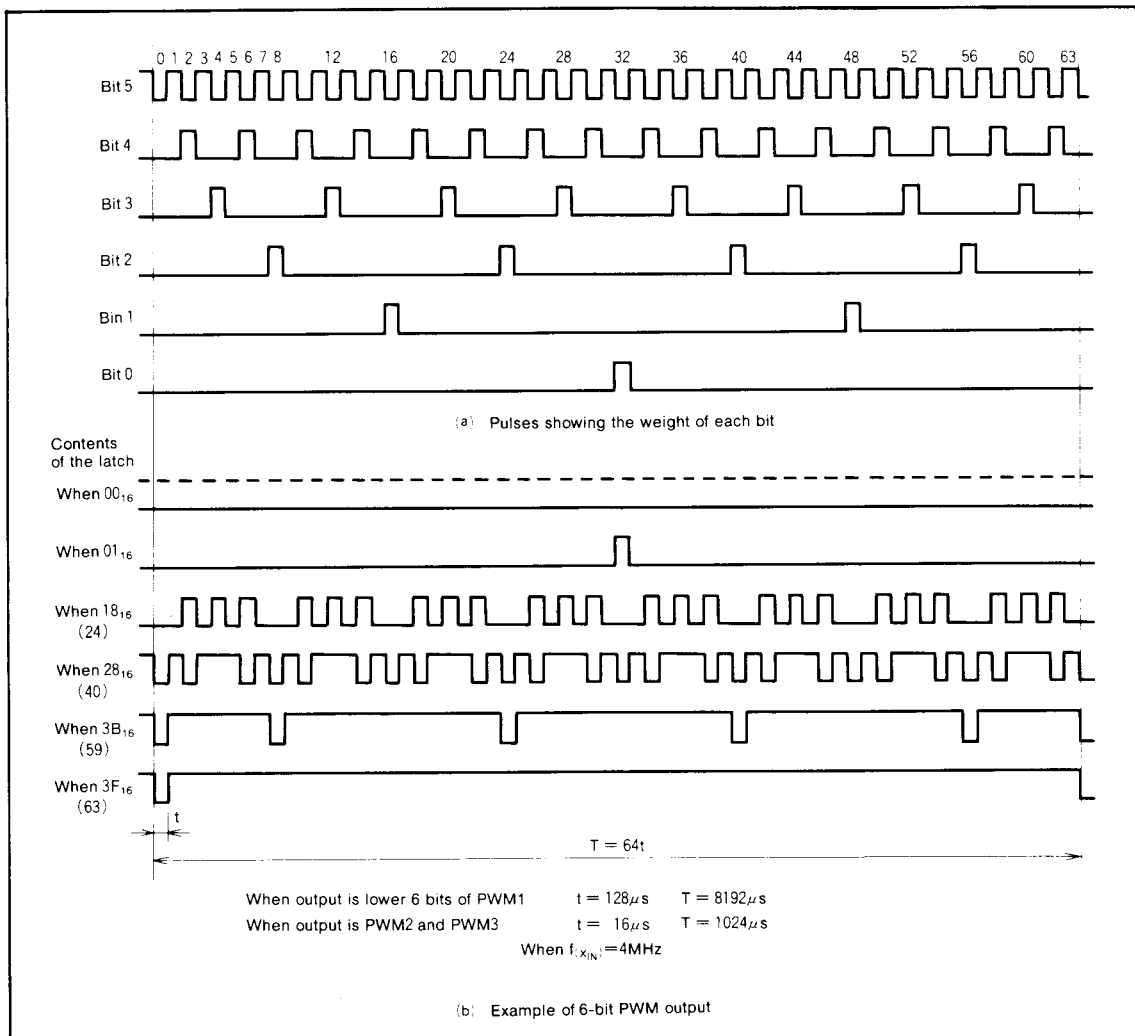

Fig.10 6-bit PWM timing diagram
(4) Operation of the 6-bit PWMs
The timing diagram of the two 6-bit PWMs (PWM2 and PWM3) is shown in Figure 10. One period (T) is composed of 64 (2⁶) segments.
There are six different pulse types configured from bits 0~5 representing the significance of each bit. These are output within one period in the circuit internal section. Refer to Figure 10(a).
is selected. The PWM output is the difference of the sum of each of these pulses. Several examples are shown in Figure 10(b). Changes in the contents of the PWM latch allows the selection of 64 lengths of high-level area outputs varying from 0/64 to 63/64. An length of entirely high-level output cannot be output, i.e. 64/64.